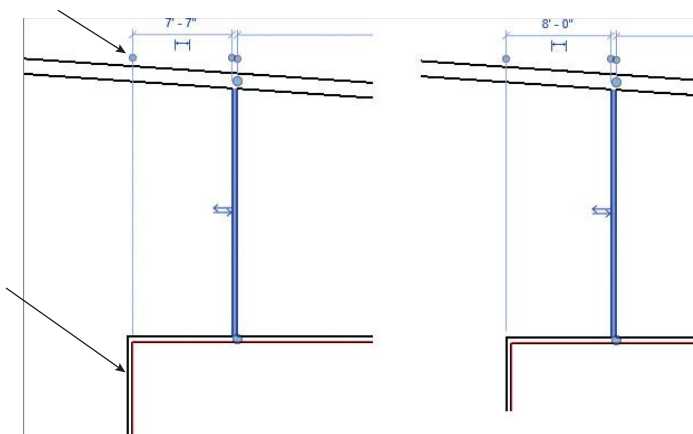

FIGURE 1.28 Adjust references of temporary dimensions by dragging grips.
2. Press the Esc key or click the Modify button in the ribbon to exit the Wall command. Select one of the walls you created in step 1. A string of temporary dimensions appears. Drag the grip on the far left of the dimension string so that it aligns with the outside edge of the other wall, as shown in Figure 1.28.